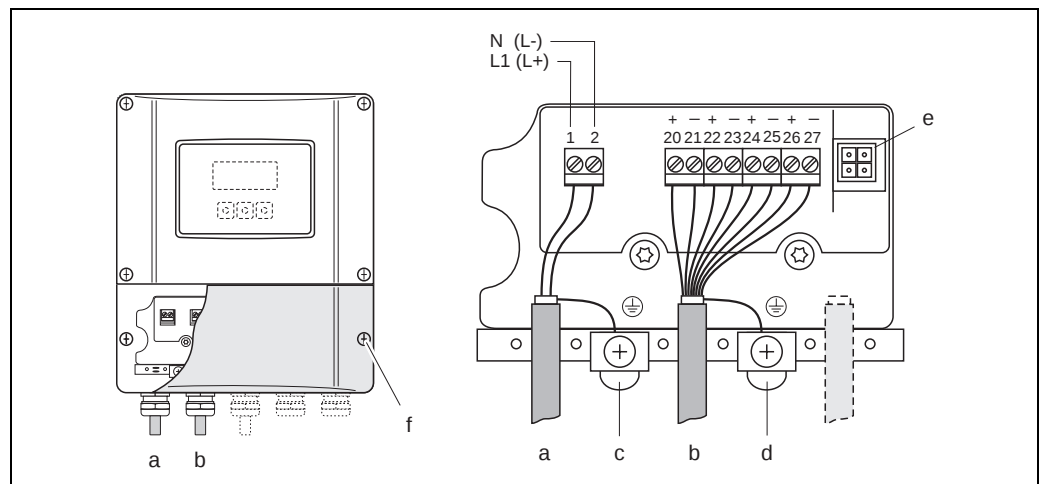

Fig. 23: Connecting the transmitter (wall-mount housing); cable cross-section: max. 2.5 mm²
- Wiring diagram (wall-mount housing) → Fig. 23